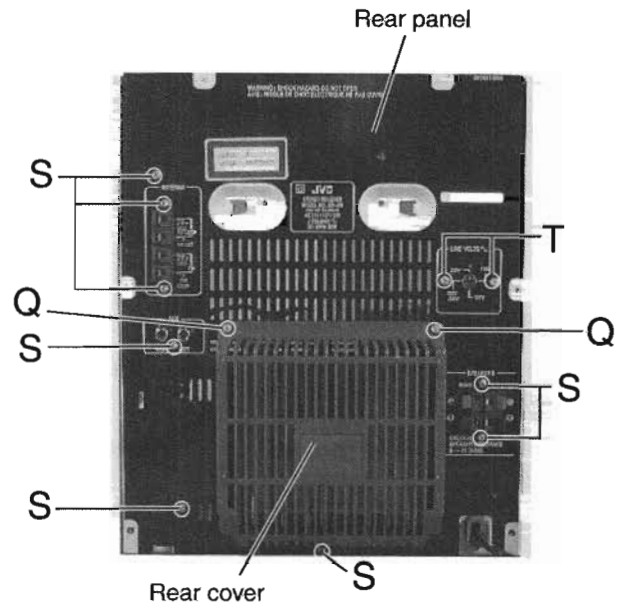

Fig.17
■ Removing the Rear Cover (See Fig.17)
■ Removing the Rear Panel (See Fig.17 to 20)